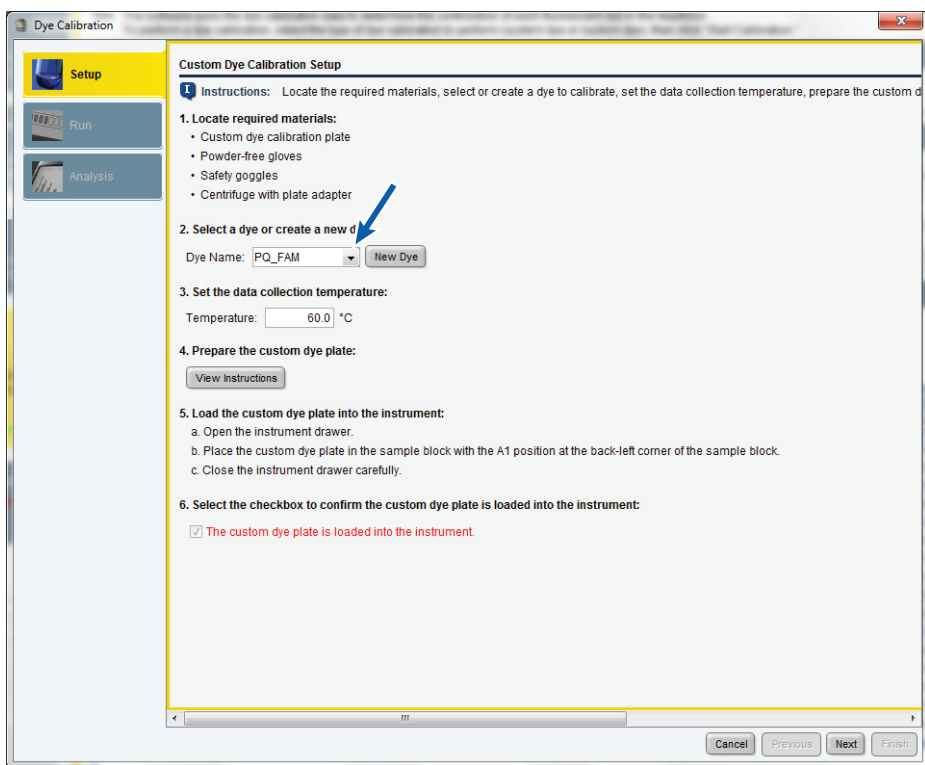

Figure 5. Selecting the dye name from the drop-down list.
- In the Custom Dye Calibration Setup window, select **PQ_FAM** from the 'Dye Name' drop-down list (Figure 5).
- Check the box labeled “The custom dye plate is loaded into the instrument” (Figure 5).